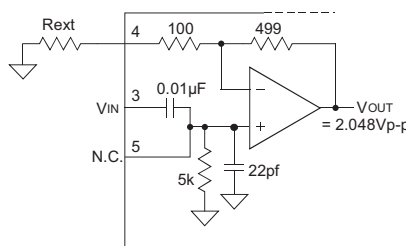
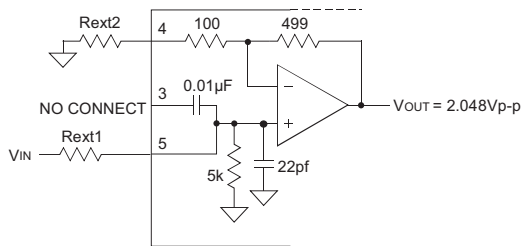
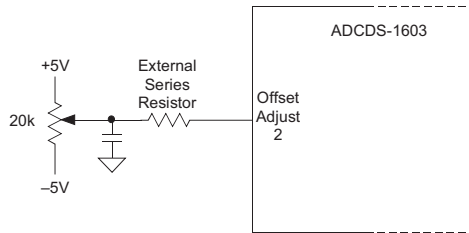

Figure 2b. Direct Mode
Figure 2d. Non-inverting Mode
Figure 3. Offset Adjustment Circuit
- Offset adjustment resistor (Figure 3), Rext (Figure 2b, 2c, & 2f), and Rext1 & Rext2 (Figure 2d) should be placed as close to the ADCDS-1603 as possible.
When applying inputs that are less than 2.048Vp-p, a coarse gain adjustment (applying an external resistor to pin 4) must be performed to ensure that the full scale pixel data input signal (saturated signal) produces 2.048Vp-p signal at the input-amplifier's output (VOUT) (See figure 2b & 2c).
The ADCDS-1603 achieves its specified accuracies without the need for external calibration. If required, the device's small initial offset error can be reduced to zero using the OFFSET ADJUST (pin 2) feature (See figure 3). For fine gain adjustment model, contact the factory.
Figure 2b. describes the configuration for applications using a pixel data input signal with an amplitude greater than 0.342Vp-p and less than 2.048Vp-p. Using a single external series resistor, the coarse gain of the ADCDS-1603 can be set. The coarse gain of the input amplifier can be determined from the following equation: VOUT = 2.048Vp-p = VIN\* (1+(499/(100+Rext))) (all internal resistors having a 0.1% tolerance).
Figure 2d. describes the typical configuration for applications using a pixel data input signal whose amplitude is greater than 2.048Vp-p. Using a single external series resistor (Rext 1) in conjunction with the internal 5K (1%) resistor to ground, an attenuation of the input signal can be achieved. The coarse gain of this circuit can be determined from the following equation:
Manual offset adjustment for the ADCDS-1603 can be accomplished using the adjustment circuit shown in Figure 3. A software controlled D/A converter can be substituted for the 20KΩ potentiometer. The offset adjustment feature allows the user to adjust the Offset/Dark Current level of the ADCDS-1603 until the output bits are 00 0000 0000 0000 and the LSB flickers between 0 and 1. The ADCDS-1603's offset adjustment is dependent on the value of the external series resistor used in the offset adjust circuit (Figure 3) and the gain of the input-amplifier.